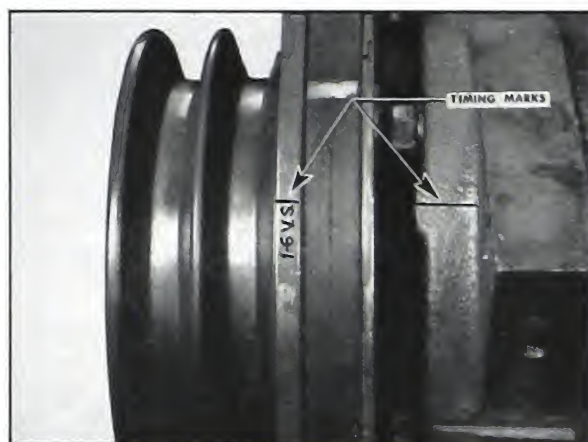

Fig. 12-30. Valve set timing marks
3. Continue to rotate the crankshaft in its operating direction one-quarter turn and the "1-6V.S." mark for six cylinder (or "1-4V.S." for four cylinder) on the water pump drive pulley will line up with the timing mark on the gear case cover. The engine is now in position to adjust the injector plunger and valves for No. 1 cylinder. (Fig. 12-30).